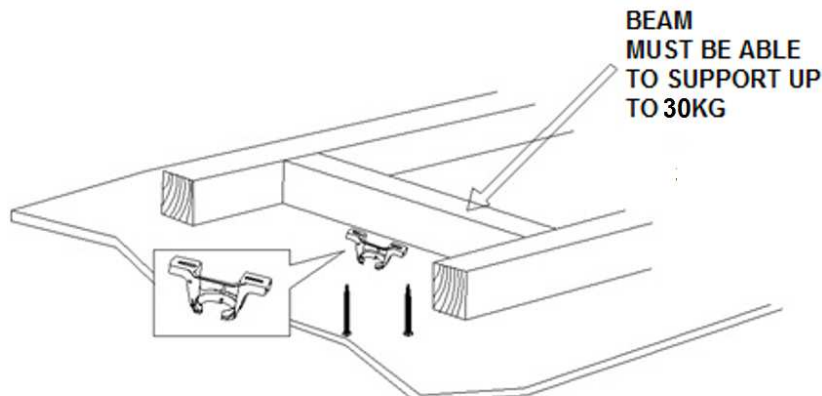

Fig. 2
- **Install** the hanging bracket to the ceiling joist or structure that is capable of carrying a load of at least 30kg, with two long screws provided. Ensure at least 30mm of the screw is threaded into the support. (Fig. 2)